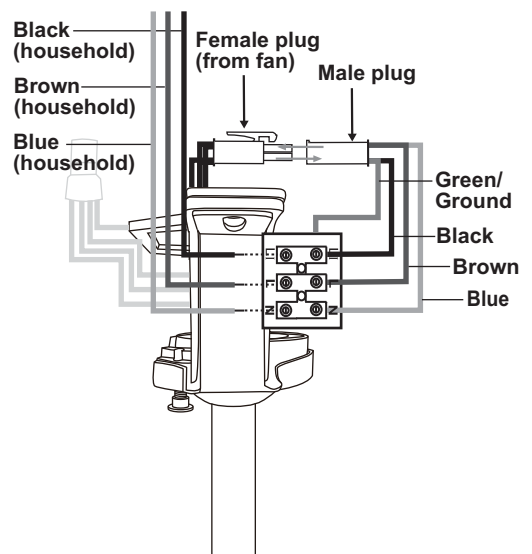

Figure 16
4. Connect the blue, neutral household neutral wire to the terminal block "N" hole. Connect the brown, Live household neutral wire to the terminal block "L" hole. Connect the black, Live household neutral wire to the terminal block "LI" hole. (Fig. 16 & 17)